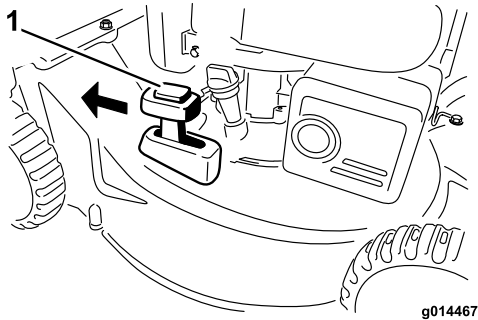

Figure 16
2. Press the button on top of the Recycling/bagging lever and move the lever to the **recycling** mode (Figure 16).
2. To bag the grass clippings, install the grass bag (refer to Installing the Grass Bag). Press the button on top of the Recycling/bagging lever and move the lever to the **bagging** mode (Figure 16).
Note: The Recycling/bagging lever should be in the **bagging** mode (Figure 16).